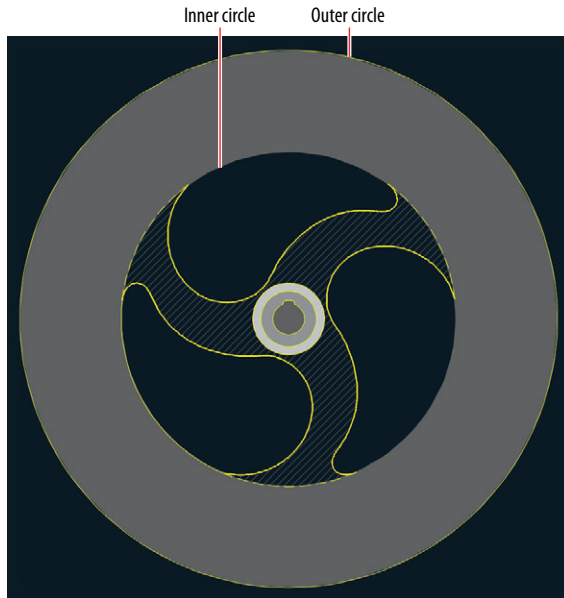

FIGURE 8.9 Hatching the outer portion of the rotor by selecting objects
3. Type **H** (for Hatch), and press Enter. Click the Select tool in the Boundaries panel of the ribbon's Hatch Editor tab. Select the circle making up the inner circle of the rotor, and then select the single outer circle. Select Solid in the Pattern panel and press Enter. The hatch appears correctly (see Figure 8.9).